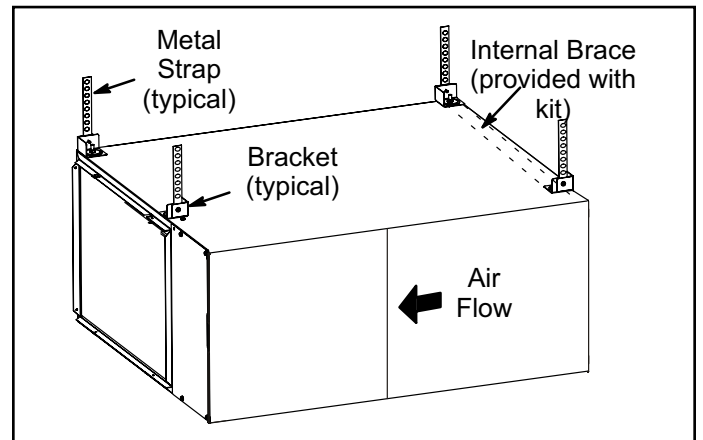
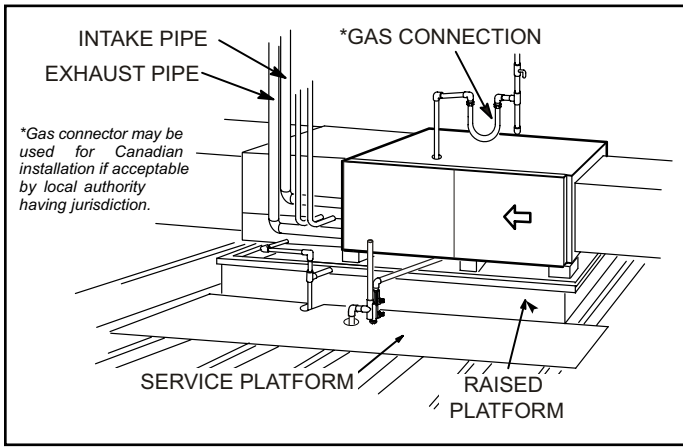

Figure 12. Horizontal Suspension Kit
Figure 13. Platform Installation
This furnace may be installed in either an attic or a crawlspace. Either suspend the furnace from roof rafters or floor joists, as shown in Figure 12, or install the furnace on a platform, as shown in Figure 13. A horizontal suspension kit (51W10) may be ordered from the distributor or use equivalent.
13. Construct a raised wooden frame and cover frame with a plywood sheet. If unit is installed above finished space, install an auxiliary drain pan under unit. Set unit in drain pan as shown in Figure 13. Leave 8 inches for service clearance below unit for condensate trap.